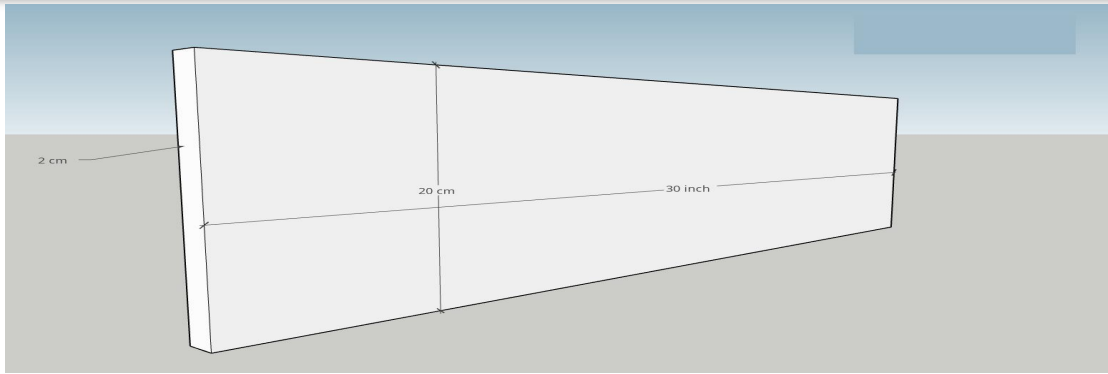

Figure 5: Wall dimensions
- The thickness of the wall is 2 cm. Refer Figure 5.